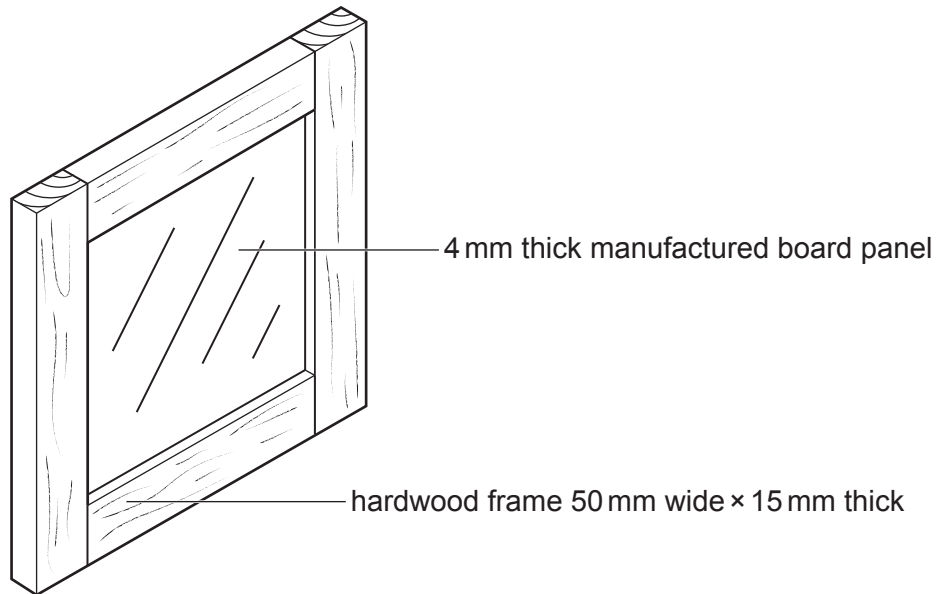

Fig. 6.1
- 6 Fig. 6.1 shows a cabinet door. The door has a panel that is fitted inside the hardwood frame.